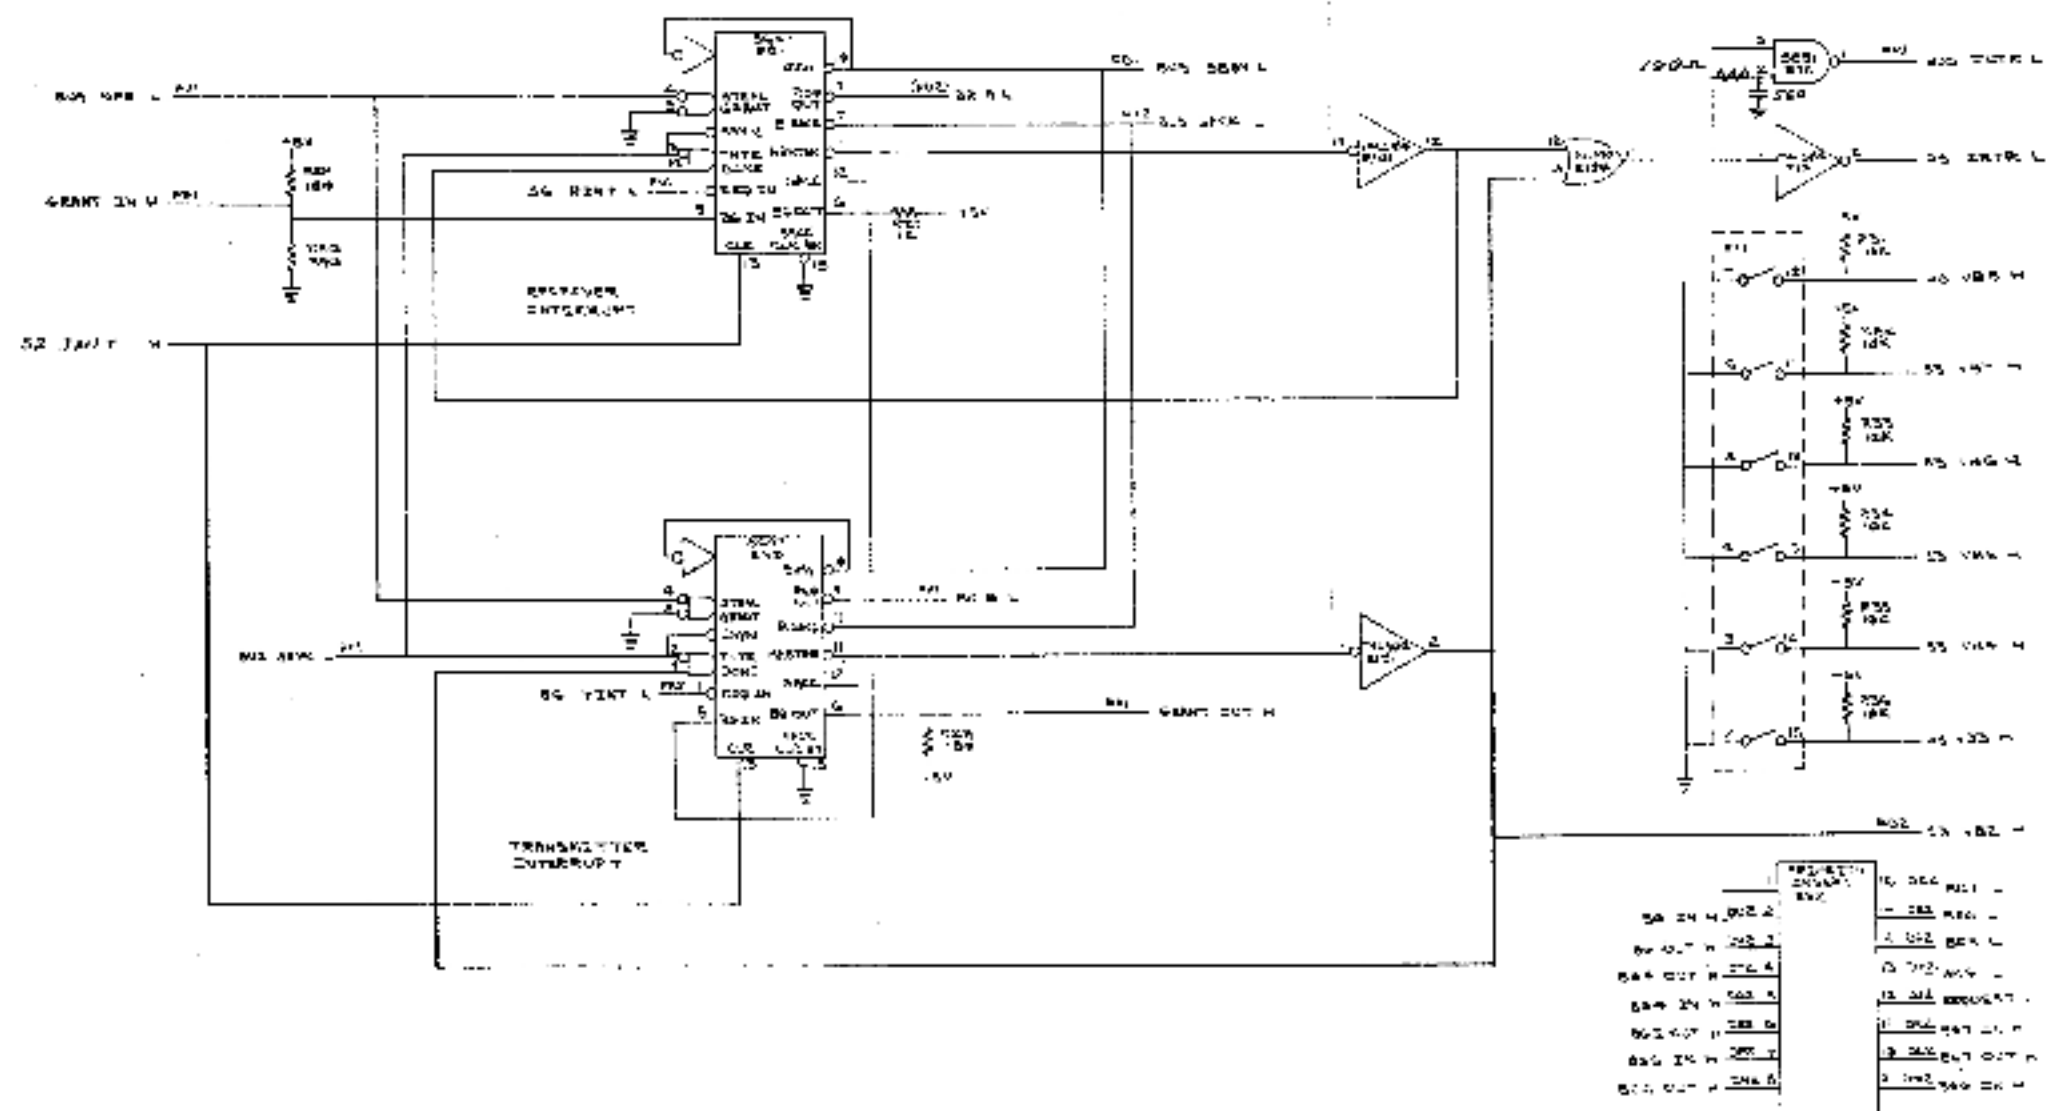

Figure 4-8 Interrupt Control Logic
4.2.2.1 Receiver Interrupt (Figure 4-8) - The receiver interrupt signals the processor when the DZ11 receives a character from the terminal, and stores the character in the RBUF (silo buffer). After processing by the UART, the character is loaded into the silo, and CSR bit 07 (RDONE) is set. RDONE causes generation of the RINT signal. RINT is fed to the 8647 receiver interrupt logic and the BR A signal is transmitted to the processor via the Unibus at priority level 5A. When the processor status goes below level 5, a BG5 signal is routed through the priority insert (on the DZ11 module) to the GRANT IN input of the 8647, causing generation of MASTER, BUS SACK, and BUS BBSY. The MASTER signal is inverted and gated to create the BUS INTR for transmission to the Unibus and the INTR created for use in other DZ11 logic. The vector address is strobed to the Unibus from the output data multiplexer by the INTR signal.
4.2.2.2 Transmitter Interrupt (Figure 4-8) - The transmitter interrupt occurs when the DZ11 is engaged in character transmission to the terminal, and the processor must be interrupted to request additional data for transmission. The interrupt sequence begins with assertion of TRDY and TIE signals, which generate the TINT pulse. The TINT signal begins the processor-DZ11 interrupt dialog via the Unibus. The 8647 transmitter interrupt priority is less than that of the receiver, therefore, bus grants are received only when a receiver interrupt is not in process. The transmitter interrupt logic causes generation of the same signals as the receiver logic, including strobing the vector address; however, the transmitter vector is located two words after the receiver vector. For example, a receiver vector of 300 automatically places the transmitter vector at 304.